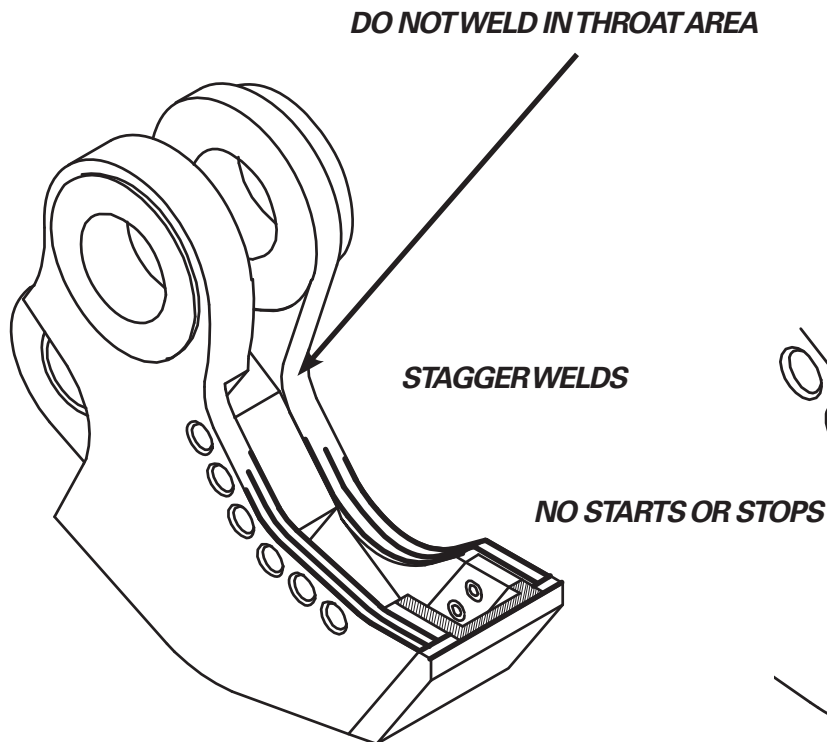

FIGURE 7-58
7. To hardsurface the build up just completed, apply three or four passes of AWS E7018 build up running the length of the shear and across the nose plate to establish the hardsurface pattern (see figure 7-58). This will serve as an underlayment for the hardsurface rod. **DO NOT** apply hardsurface directly to the parent material. Apply Amalloy 814H rod or equivalent on top of each of the underlayment beads. It is important to use an air operated slag peener on each pass of weld to relieve stress. No more than two layers of this rod should be used.
8. The hardsurface should end approximately at the midpoint of the primary blade (see figure 7-58). Stagger the ends of the welds. Do not end welds within 1" (25 mm) of bolt holes. Do not undercut the ends of the weld with the grinder. Taper ends of welds down to the base material with grind marks going with the grain.